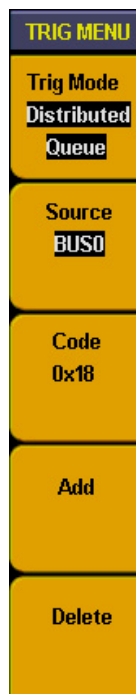

Fig. 88: Distributed queue trigger menu
5. **Distributed queue trigger:** make BUS as trigger source and dis-continuous setting data in BUS as trigger condition to generate trigger and also can set 8 data at the same time. Distributed queue trigger menu refer as Fig.88